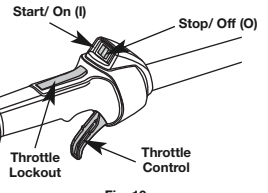

Fig. 10
NOTE: There is no need to turn the unit on. The On/Off Stop Control is in the ON (I) position at all times (Fig. 10).
- Press and hold On/Off Stop Control in the OFF (O) position until engine comes to a complete stop (Fig. 10).